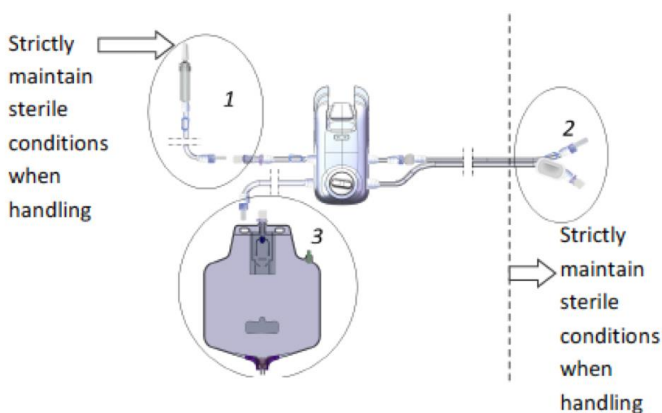

Figure 1: The three ends of the Tube Set: (1) the irrigation bag spike; (2) two connectors; and (3) the drainage bag.
4. Arrange to open Tube Set package carefully to maintain sterile condition as indicated in Figure 1. Strictly maintain sterile conditions when handling the irrigation spike and connectors.